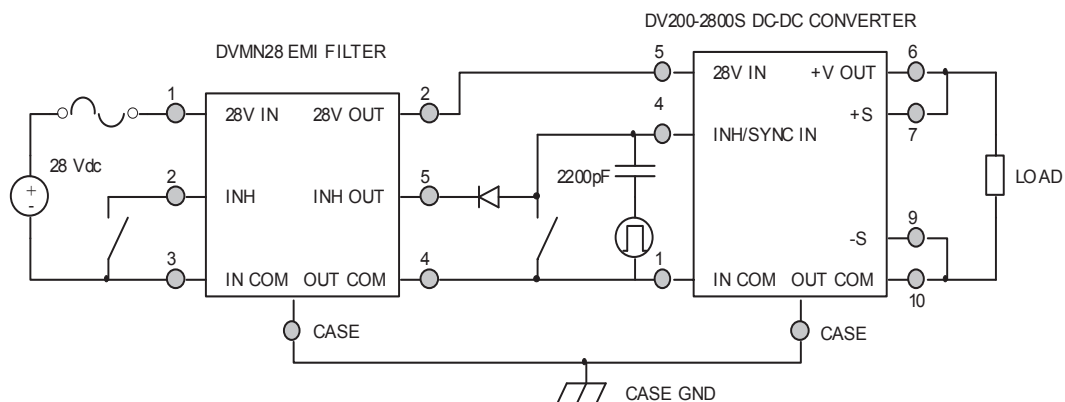

Figure 3 – DVMN28 EMI Filter Hookup with Single Converter
3. Output inhibit used with load converters as in Figure 3.